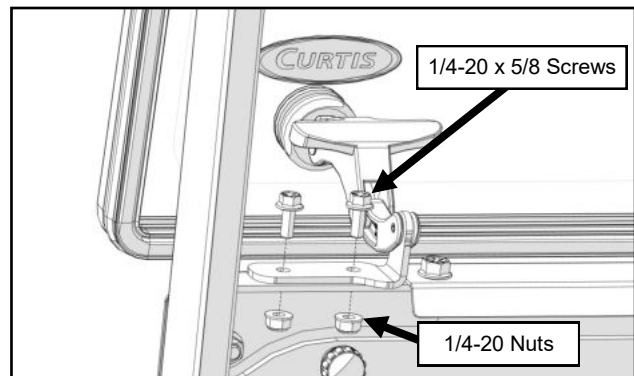

Fig. 11.2 (Secure Windshield Latches)
11.2 Secure the windshield latches to the side frames with the latches open, and tighten latch hardware. See Figure 11.2.